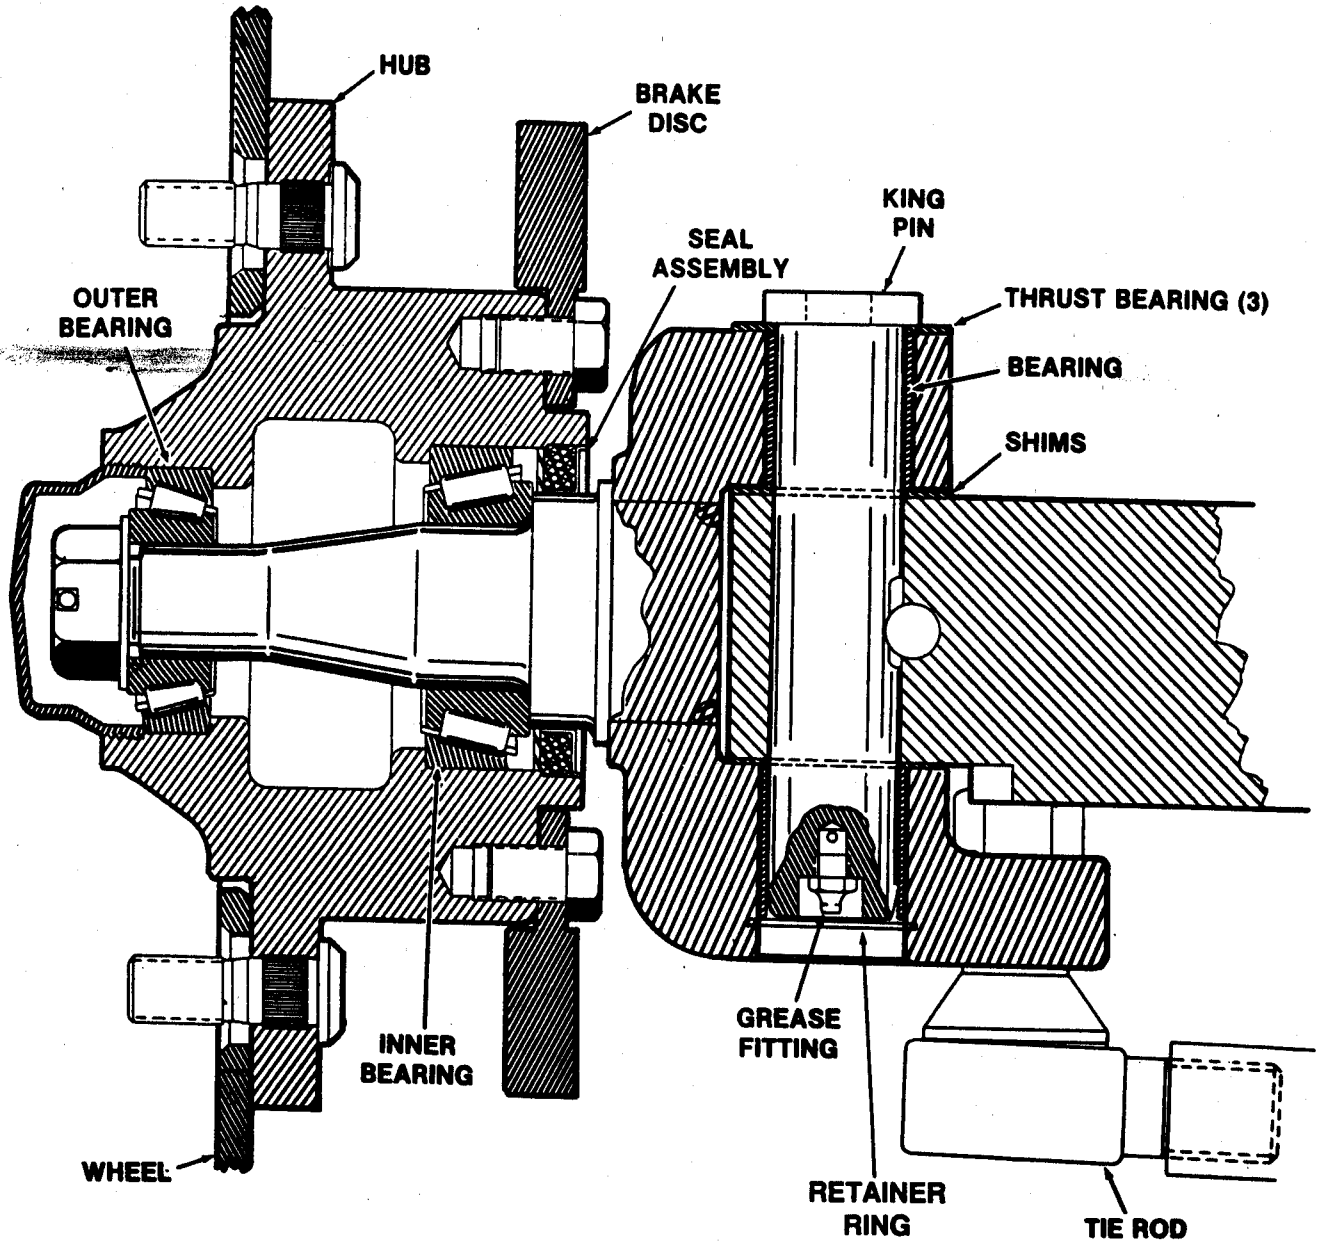

Figure 4. Axle Hub — Cross Section View
1. If bearings were removed, press new bearings into kingpin bores in knuckle. Top of bearings must be even with top of kingpin bore as shown in Figure 4.
2. Apply petroleum jelly to thrust washers (4 and 6) and install thrust washers on the axle beam (1).
3. Put the steering knuckle into position on axle beam. By hand, lift the steering knuckle and install shims (3) until the steering knuckle fits tightly against the axle beam (minimum vertical movement). Shims are available in four sizes from .005 to .025 inch (.127 to .635 mm).
4. Align the holes in the axle beam, thrust washers, shims and steering knuckle. Install the thrust washer (13) and kingpin (12). When installing the kingpin, make sure the machine flat for the retainer pin is toward the axle center. Install the retainer pin (5). Use a hammer and soft punch.
5. Connect ball joint (38) to the steering knuckle with flat washer (32), slotted nut (39) and cotter pin (41).